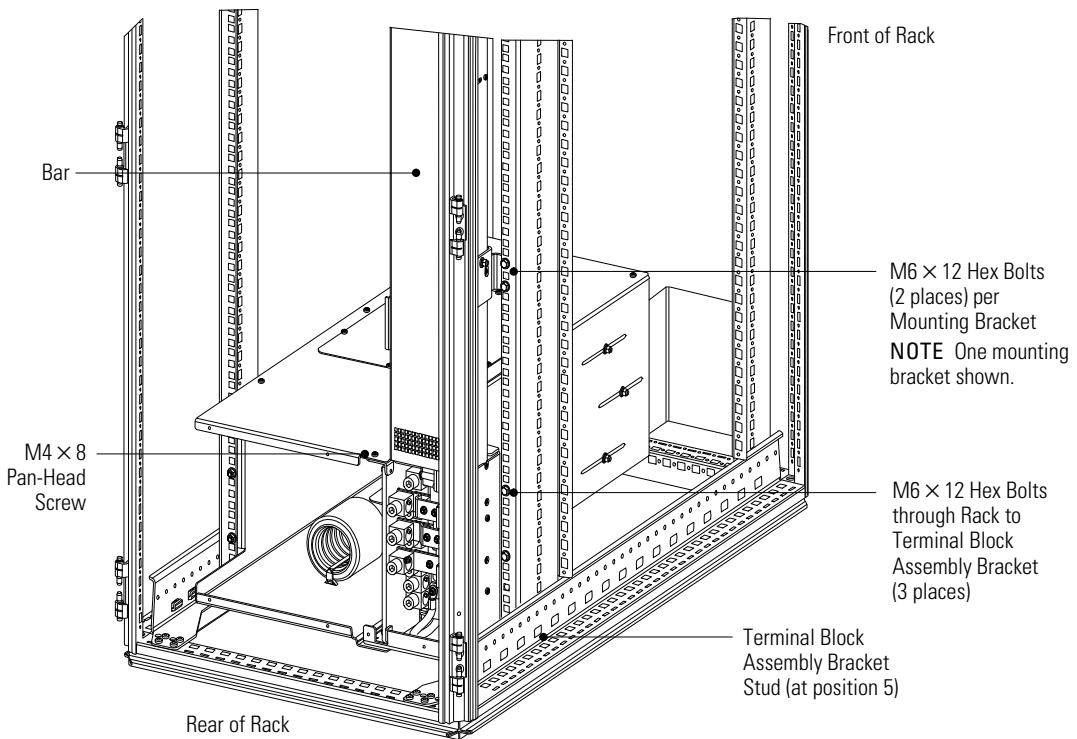

Figure 6. Bar Brackets Installation
Install the lowest bolt in position 2, then use positions 8 and 14. Verify that the terminal block assembly bracket stud aligns completely with the rack hole between the lower and middle bolts (position 5). See Figure 6. Torque the bolts to 5.1 ± 0.8 Nm (45 ± 7 lb in).
15. **BladeUPS Bar 4-High.** Install two M6 × 12 hex bolts in each of the bar's two mounting brackets, securing the length of the bar to the rack. See Figure 6. Torque the bolts to 5.1 ± 0.8 Nm (45 ± 7 lb in).
16. **BladeUPS Bar 6-High.** Install two M6 × 12 hex bolts in each of the bar's three mounting brackets, securing the length of the bar to the rack. See Figure 6. Torque the bolts to 5.1 ± 0.8 Nm (45 ± 7 lb in).
17. Install an M4 × 8 pan-head screw to secure the wireway top panel to the bar. See Figure 6.